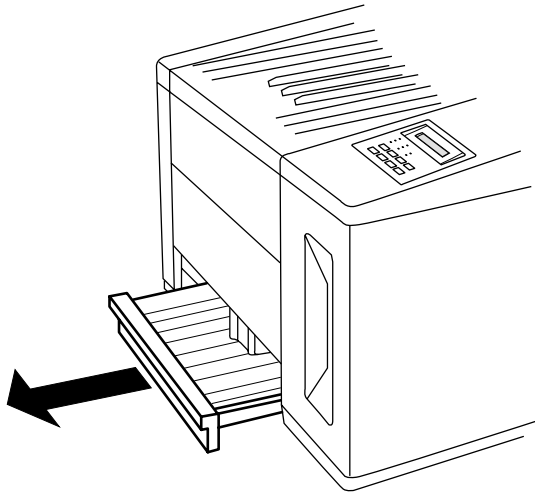

Fig. 2.29 *Remove the Paper Cassette*
1. Pull the paper cassette out of the printer (fig. 2.29).